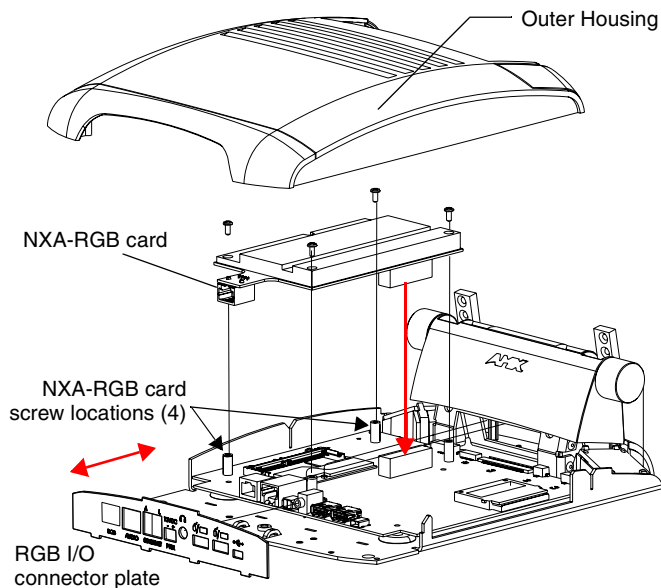

FIG. 19 Location of the NXA-RGB card and I/O plate
6. *In a single motion*, carefully pull the outer housing up and then out (away from the LCD panel) to expose the internal circuit board (FIG. 19). **The NXA-RGB card is available within both the optional RGB Kit and NXA-RGBKIT upgrade.**
3. With the components securely installed, tilt the LCD back to a 45° and then gently slide-on the outer housing (towards the LCD) until it is aligned over the installation holes and the tilt bracket prevents any further forward movement (FIG. 19).